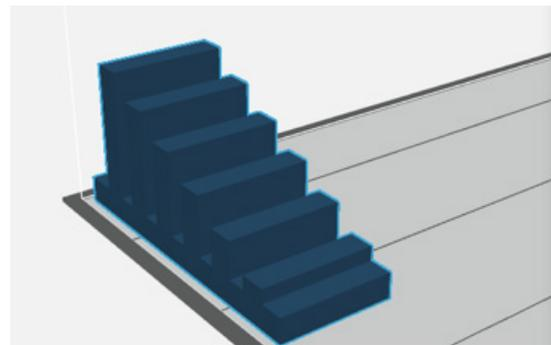

Figure 5: Walls parallel to the X-axis.
- If possible, position vertical walls parallel to the X-axis (Figure 5). This reduces the impact of the roller on the walls.